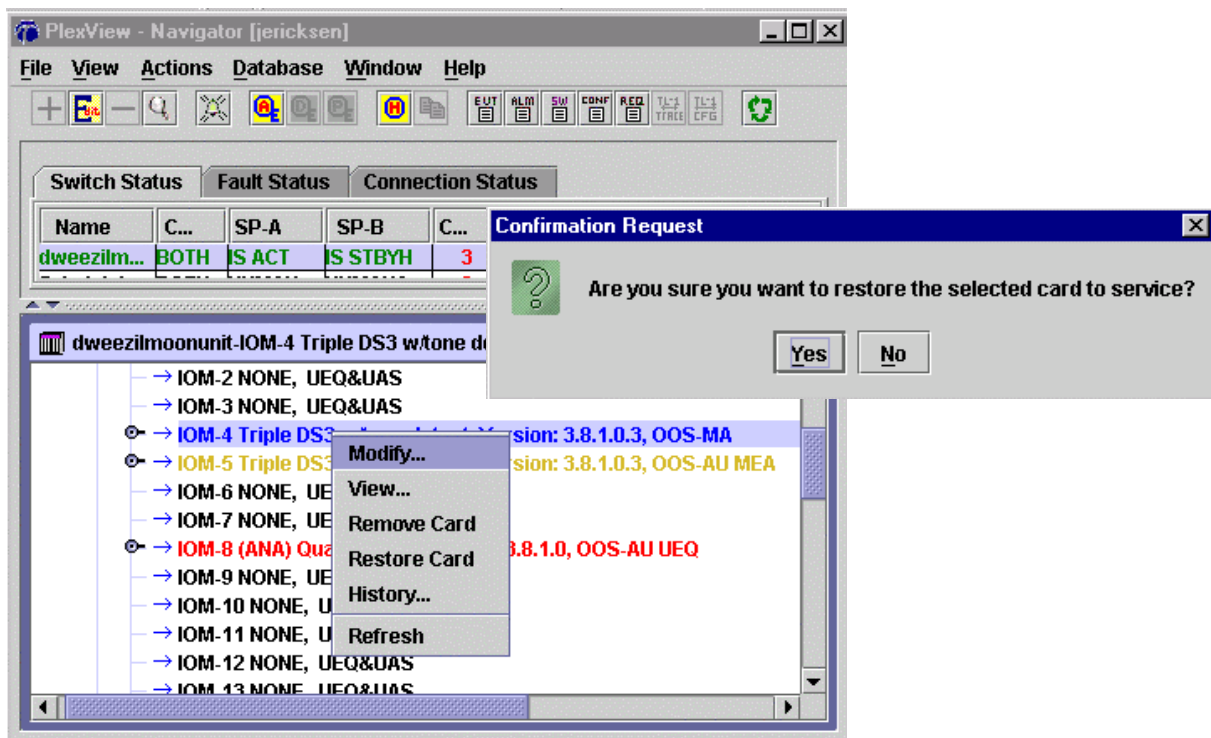

Figure 3. Restoring a Module
11. Double-click the switch to select it for the main panel and double-click *Cards*. Right-click the desired SP and then select *Restore Card*. A confirmation screen will appear. Select Yes to restore the module. Refer to Figure 3.